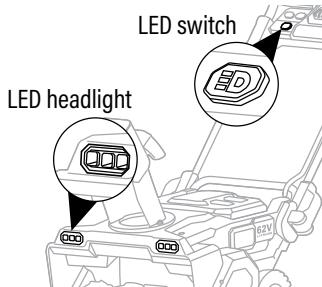

Fig. 8
1. The LED headlights are located in the front of the snow housing. (Fig. 8)
2. To turn on the lights, press the LED switch on the handle box. (Fig. 8)